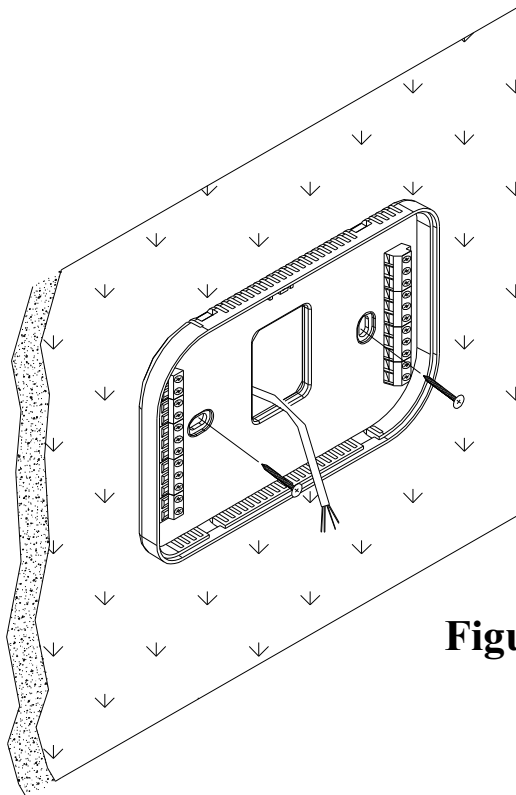

Figure 1
5. Mount the base to the wall using the two #6 x 1/2" self-tapping screws supplied - *See Figure 1.*